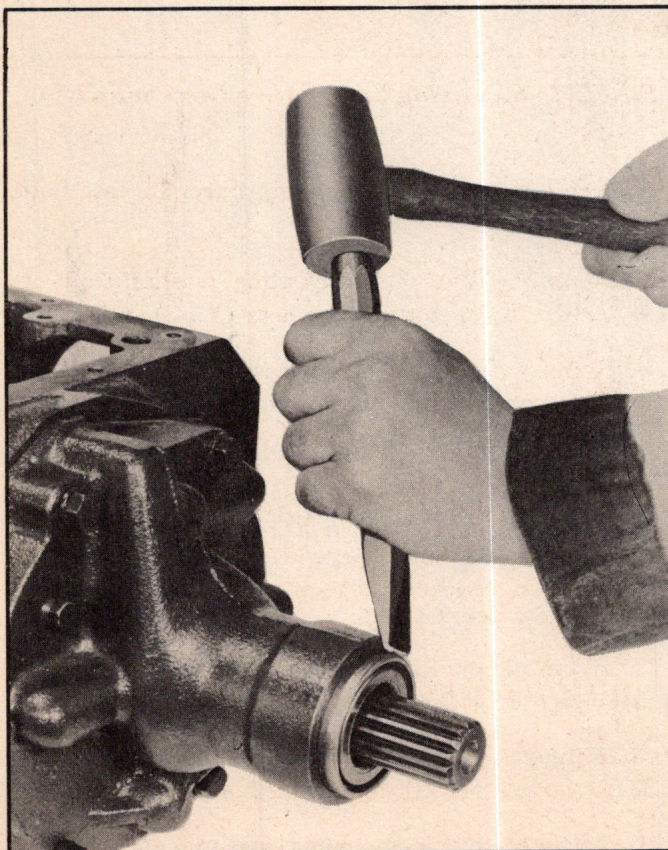

Fig. 126—Removing Rear Bearing Retainer Oil Seal
1. Remove rear bearing retainer oil seal (Fig. 126).